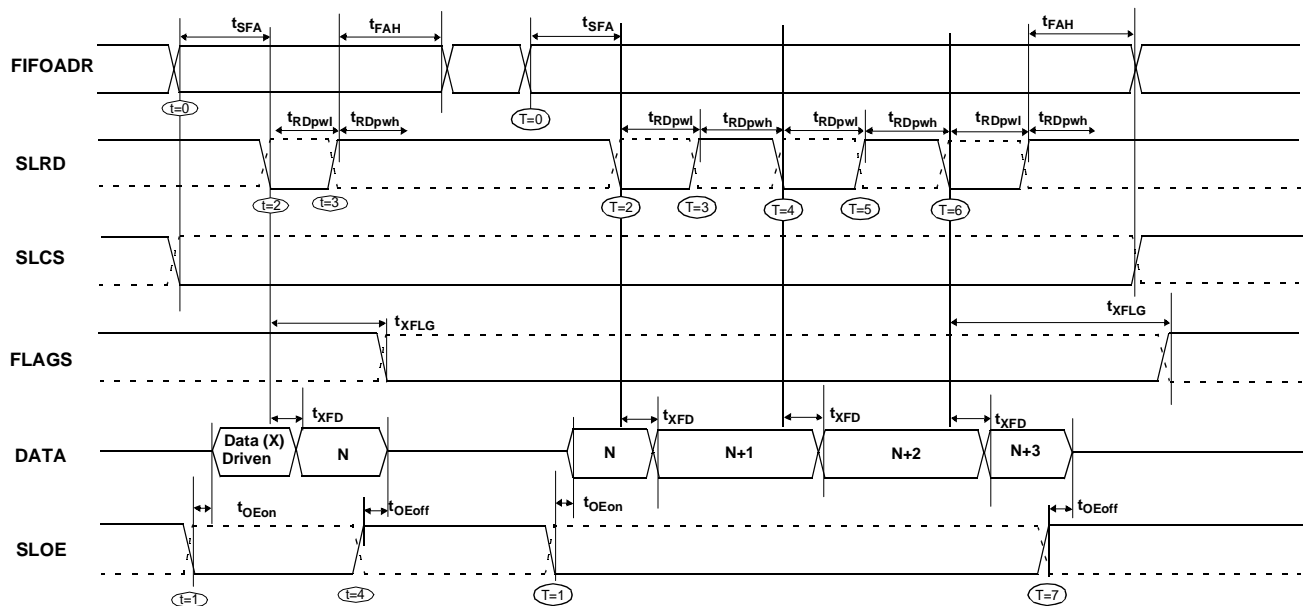

Figure 11-18. Slave FIFO Asynchronous Read Sequence and Timing Diagram
Figure 11-18 diagrams the timing relationship of the SLAVE FIFO signals during an asynchronous FIFO read. It shows a single read followed by a burst read.
- The data that will be driven, after asserting SLRD, is the updated data from the FIFO. This data is valid after a propagation delay of t_{XFD} from the activating edge of SLRD. In *Figure 11-18*, data N is the first valid data read from the FIFO. For data to appear on the data bus during the read cycle (i.e. SLRD is asserted), SLOE MUST be in an asserted state. SLRD and SLOE can also be tied together.